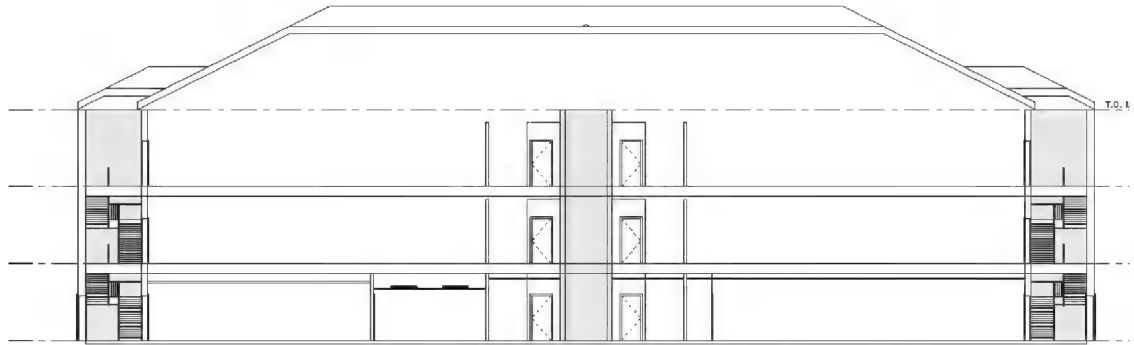

FIGURE 10-1.3 Longitudinal view - updated
7. Adjust the *Far Clip Plane* in plan view so the entire stair shows and the *Crop Region* is not visible (Figure 10-1.3).